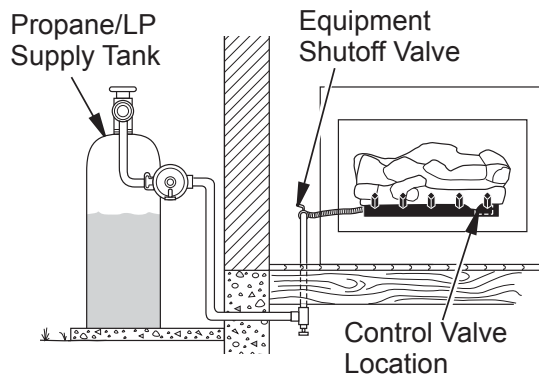

Figure 15 - Checking Gas Joints (Propane/LP Only)
3. Check all joints from gas meter to equipment shutoff valve for natural gas or propane/LP supply to equipment shutoff valve for propane/LP (see *Figure 15 or 16*). Apply noncorrosive leak detection fluid to all joints. Bubbles forming show a leak.
4. Check all joints from equipment shutoff valve to gas valve (see **Figure 15 or 16, Page 15**). Apply noncorrosive leak detection fluid to all joints. Bubbles forming show a leak.